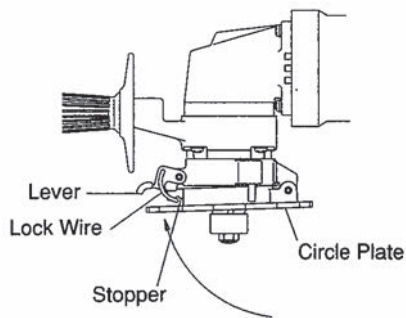

Fig. 11
- (4) Set the new Indexable Insert (including the one whose face is changed) while using care on the Indexable Insert direction, and use the Spanner T-15D to securely fasten the Indexable Insert holding screw.
- (5) Swing the Circle Plate, hang the Lock Wire on the Stopper groove, and use the lever to lock it. (Fig.11)